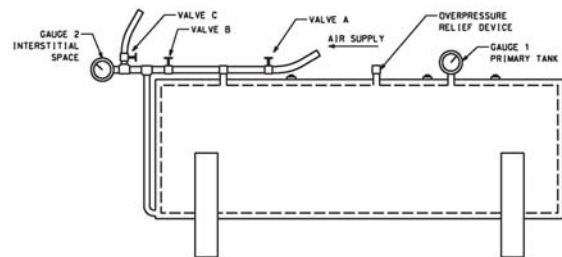

FIGURE 2
- 3.2.2.2 Install test piping as shown in Figure 2. Temporarily plug, cap or seal off remaining tank openings to hold pressure.
- 3.2.2.4 Connect regulated test air supply line to test piping as shown in Figure 2.